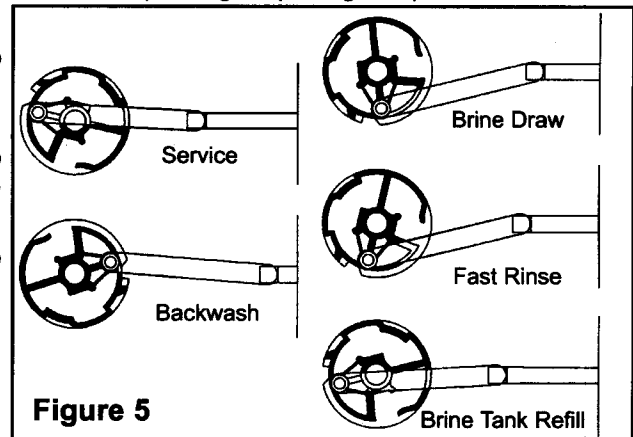

Figure 5
7. Manually turn the Manual Backwash Knob on the timer slowly through backwash, brine draw, fast rinse to the Brine Tank Refill cycle. Once in the Brine Tank Refill cycle, allow valve to fill tank automatically. The correct amount of water is automatically metered into the air check tube in the brine well into the brine tank. The Brine Tank Refill cycle can be located by observing the drain line and watching the movement of the piston gear (see figure 5) on the valve. These cycles are as follows: